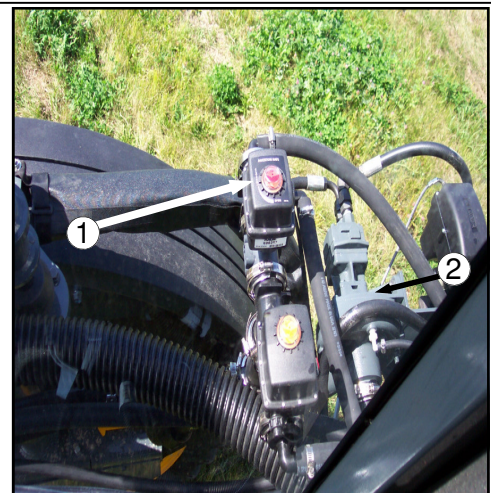

FIG. 4.32-3
AGITATION– The speed of the sparge agitation system (stainless steel tank option) or the eductor agitation system (poly tank) is controlled by a variable flow solution valve (fig. 4.32-3, item 1) mounted on the solution pump (fig. 4.32-3, item 2). The agitation switch (fig. 4.32-4) on the right hand console controls the rate of